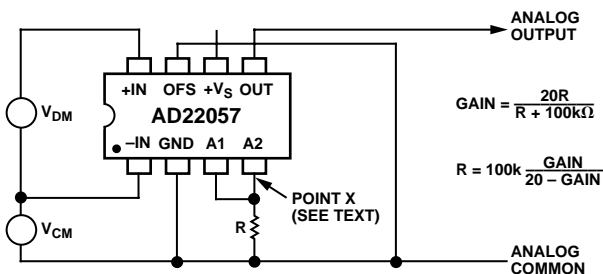

Figure 4. Achieving Gains Less Than  $\times 20$
**Decreasing the Gain.** See Figure 4. Since the output of the preamplifier has an output resistance of  $100 \text{ k}\Omega$ , an external resistor connected from Pin 4 to ground will precisely lower the gain by a factor  $R/(100\text{k}+R)$ . When configuring the AD22057 for any gain, the maximum input and the power supply being used should be considered, since either the preamplifier or the output buffer will reach its full-scale output (approximately  $V_S - 0.2 \text{ V}$ ) with large differential input voltages. The input of the AD22057 is limited to no greater than  $(V - 0.2)/10$ , for overall gains less than 10, since the preamplifier, with its fixed gain of  $\times 10$ , reaches its full scale output before the output buffer. For  $V_S = 5 \text{ V}$  this is  $0.48 \text{ V}$ . For gains greater than 10, however, the swing at the buffer output reaches its full-scale first and limits the AD22057 input to  $(V_S - 0.2)/G$ , where G is the overall gain. Increasing the power supply voltage increases the allowable maximum input. For  $V_S = 5 \text{ V}$  and a nominal gain of 20, the maximum input is  $240 \text{ mV}$ .
The overall bandwidth is unaffected by changes in gain using this method, although there may be a small offset voltage due to the imbalance in source resistances at the input to A2. In many cases this can be ignored but, if desired, can be nulled by inserting a resistor in series with Pin 4 (at "Point X" in Figure 4) of value  $100 \text{ k}\Omega$  minus the parallel sum of R and  $100 \text{ k}\Omega$ . For example, with  $R = 100 \text{ k}\Omega$  (giving a total gain of  $\times 10$ ), the optional offset nulling resistor is  $50 \text{ k}\Omega$ .